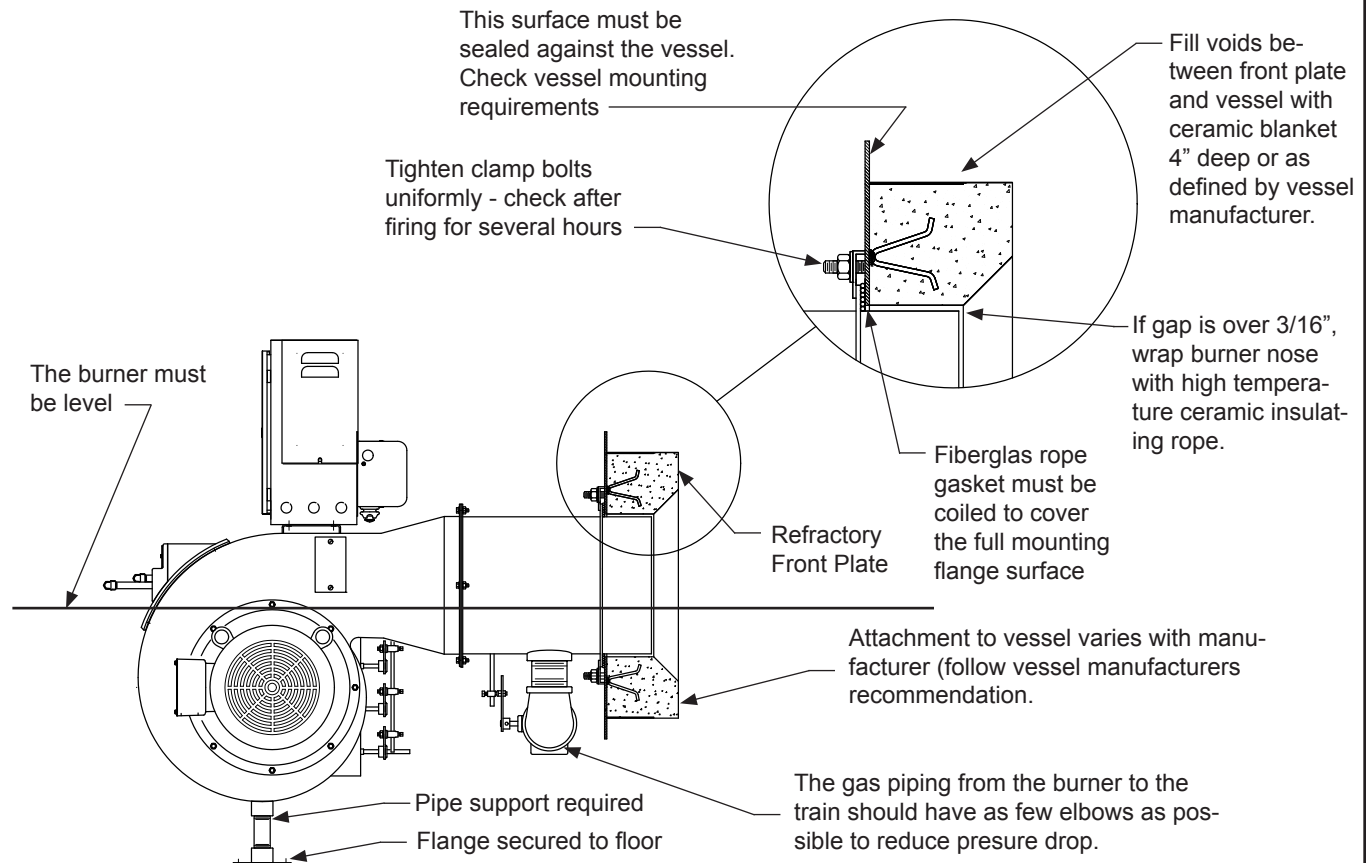

Figure E-2
21. Is the burner mounting plate and burner head sealed with rope gasket? (See Figure E-2)